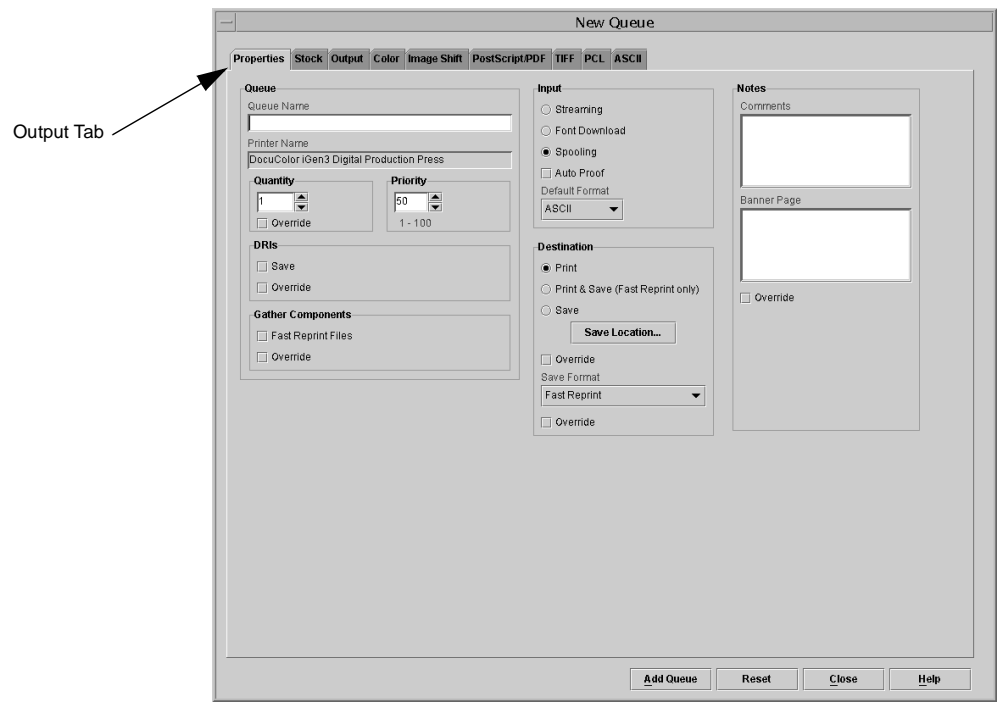

Figure 6-45 The New Queue Window
The **New Queue** Window will display, as shown in Figure 6-45.
4. Click the **OutputTab**, as shown in Figure 6-45. The **Output** Tab Screen will display, as shown in the information that follows. This information consists of **Print Queue Setup** values for the following finishing devices: